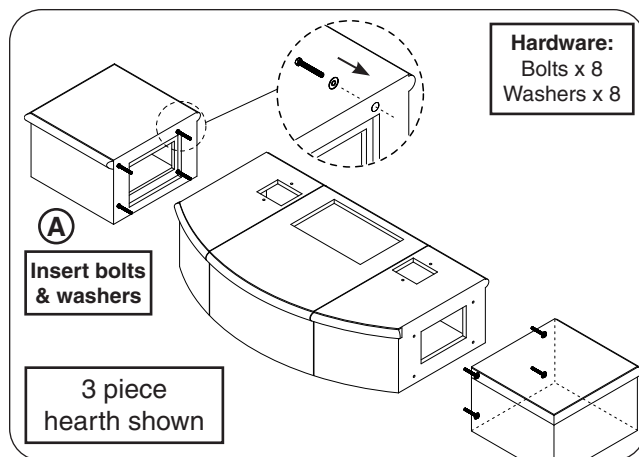

Fig. 23-1 Assemble hearth - arrange (if required)
2. Arrange the hearth pieces in their proper position. Then insert the bolts and washers into the outer pieces of the hearth as shown in Fig. 23-1.